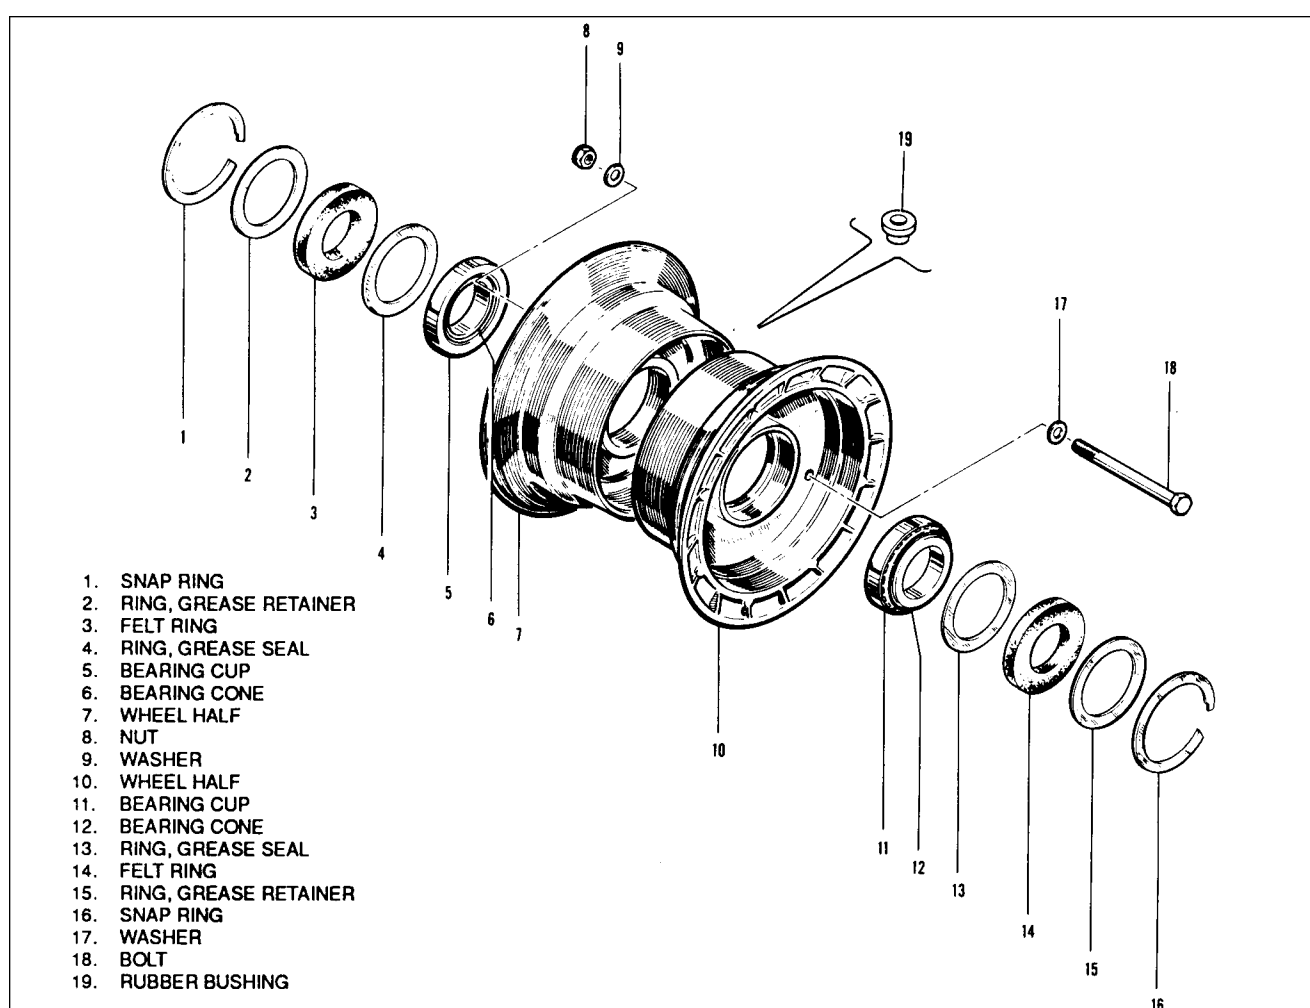

Figure 7-16. Nose Wheel Assembly
**7-45. REMOVAL AND DISASSEMBLY OF NOSE WHEEL. (Refer to Figure 7-16.)**
- c. The wheel halves (7 and 10) may be separated by first deflating the tire. With the tire sufficiently deflated, remove the wheel through bolts (18). Pull the wheel halves from the tire by removing the wheel half opposite the valve stem first and then the other half.
**7-47. ASSEMBLY AND INSTALLATION OF NOSE WHEEL. (Refer to Figure 7-16.)**
- a. Ascertain that the bearing cup (5 or 11) for each wheel half (7 and 10) is properly installed. Install the tire with tube on the wheel half with the valve stem hole and then join the two wheel halves. Install the through bolts (18) with the washer (9 and 17) and nuts (8) to the valve stem side.
***On McCauley nose wheel assemblies only, bushing (19) is required to prevent tube movement.***